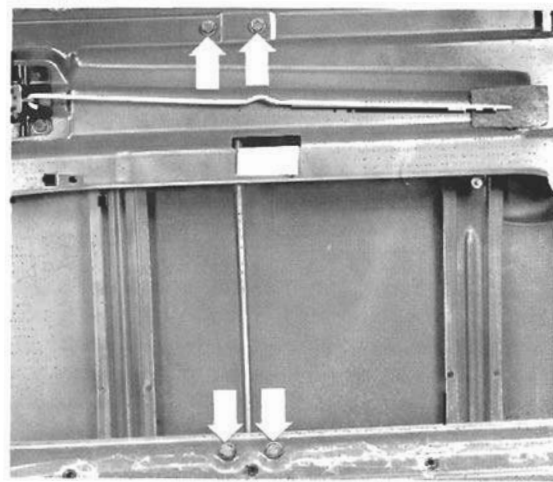

Fig. 5-22 Bolts (arrows) that hold the window lifter assembly to the door panel.
7. Remove the four bolts indicated in Fig 5-22.